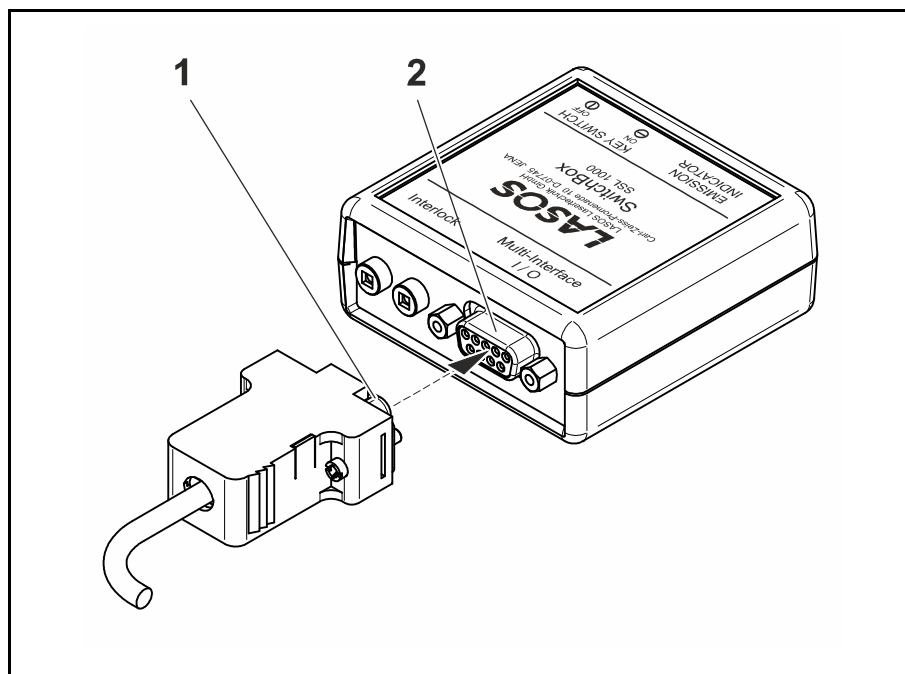

Fig. 13 Install Connection Cable CKL1000 at the SwitchBox
- Connect the the Connection Cable CKL (9-pin D-Sub male connection Fig. 13/1) with the SwitchBox (Connection Cable CKL / 9-pin D-Sub female connector Fig. 13 /2) (if present).